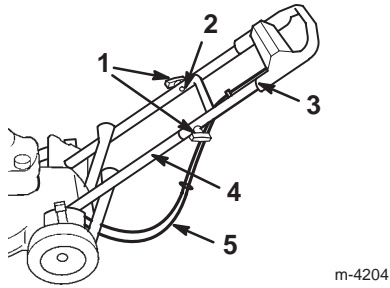

Figure 3
- Slide the upper handle section ends over the lower handle section so that the sections nest together (Fig. 3).
- Ensure that the cables are routed below and behind the lower handle section as illustrated in Figure 3.
- Secure the upper handle section to the lower handle section using 2 contoured-handle bolts and 2 knobs (Fig. 3).